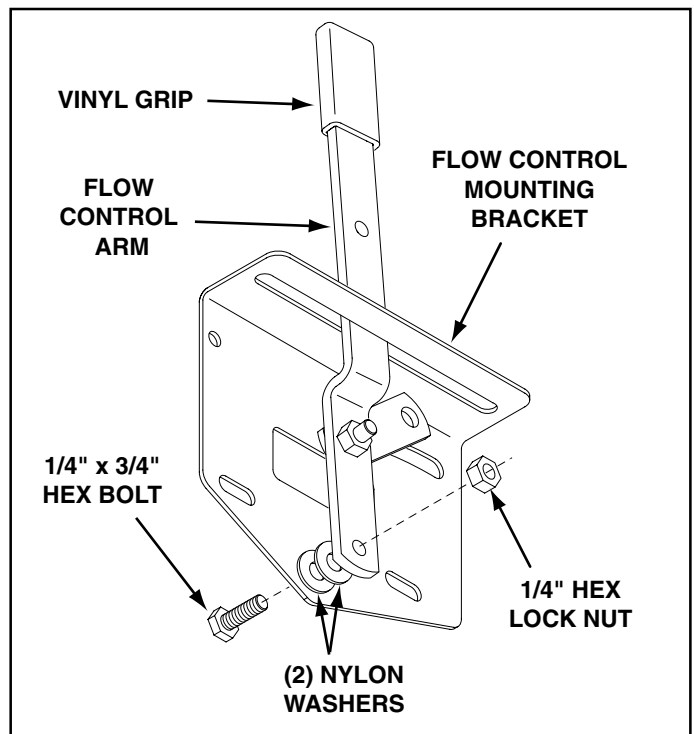

FIGURE 7
15. Assemble the flow control arm to the flow control mounting bracket using a 1/4" x 3/4" hex bolt, two nylon washers and a 1/4" hex lock nut as shown in figure 7. **Tighten carefully.** The flow control arm should pivot with a slight resistance.
16. Assemble the vinyl grip. See figure 7.